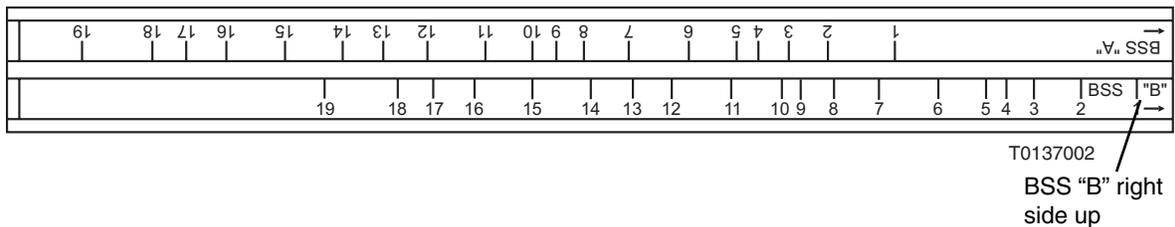

Figure 8: Rail orientation facing reflector, side B
2. If you are installing the rail on the left side of the feed arm (left as you are facing the satellite reflector), orient the rail so that the **BSS “B”** is right side up. See Figure 8.